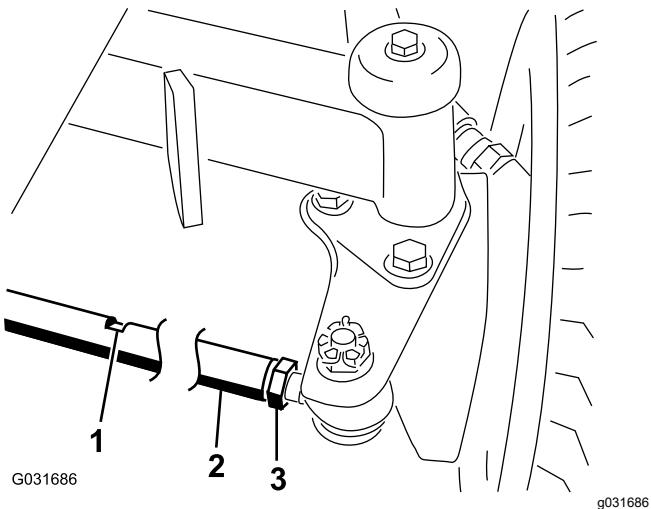

Figure 83
- Loosen the jam nut on each end of the tie rod (Figure 83).